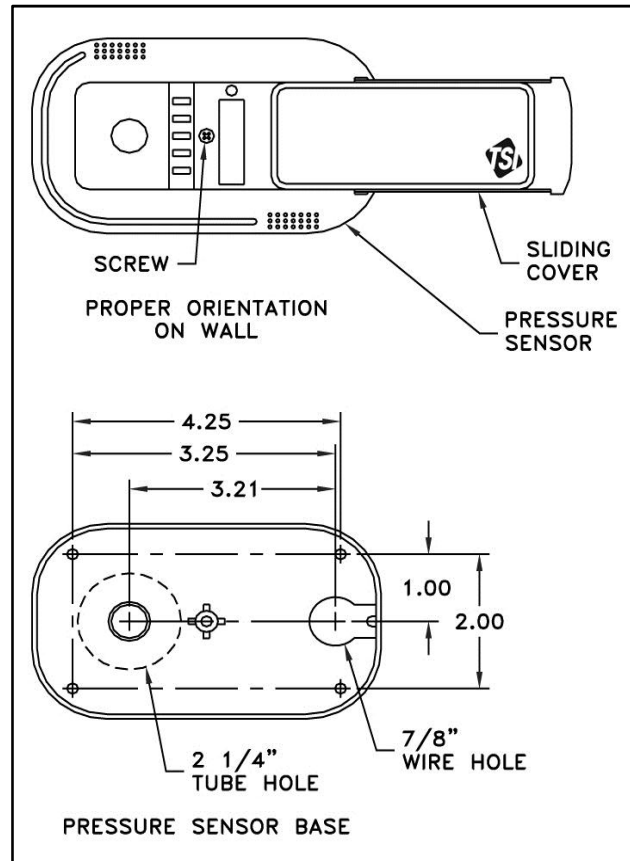

Figure 2: Pressure Sensor Orientation and Mounting Template
- The pressure sensor must be orientated on the wall as shown in Figure 2. Looking at the mounted sensor, sensor hole is on the left (2 1/4") and wire hole is on the right.
- Drill a 7/8" hole on the side of the wall that the pressure sensor will be mounted. This hole is for the six-conductor sensor cable. Refer to Figure 2 for a hole mounting pattern.
- Slide sensor cover to right and remove screw that holds the sensor base to the pressure sensor (Figure 2). Remove pressure sensor and store in a safe place.